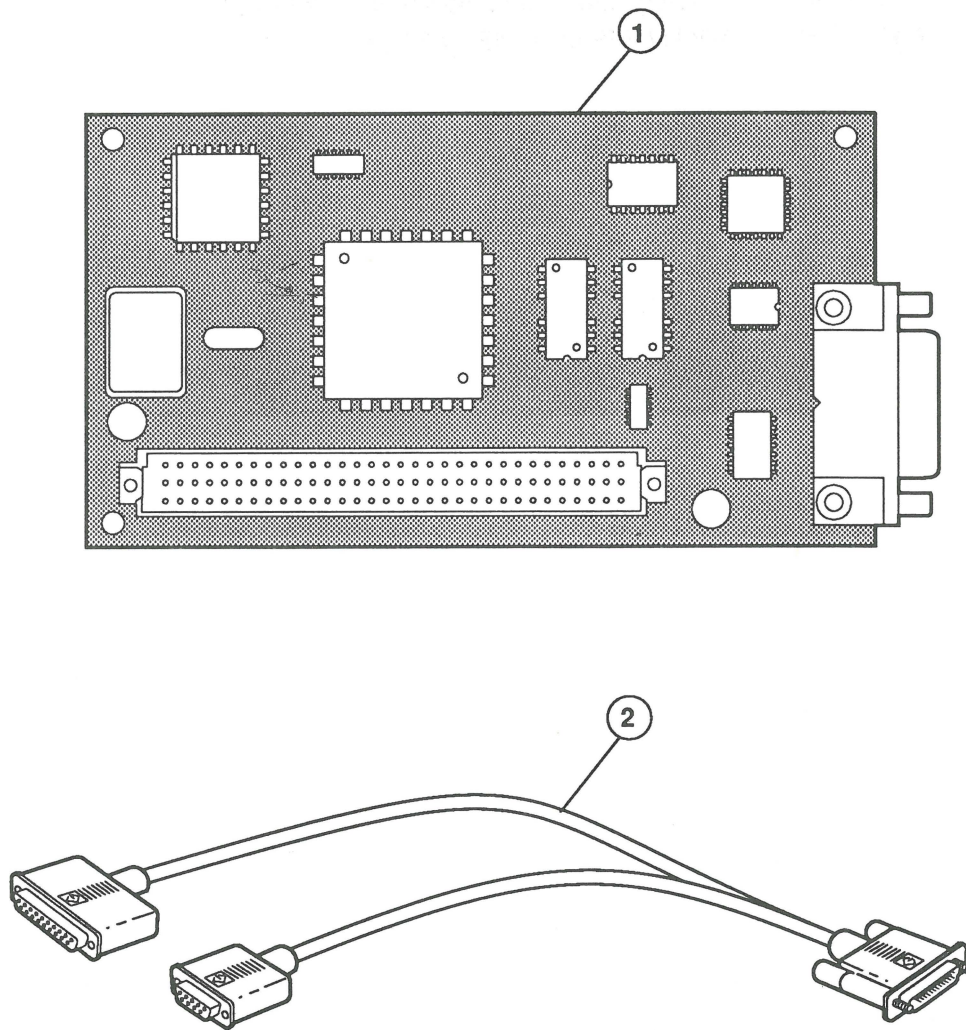

Figure 10
IPL.17	Apple IIe Card (Figure 10)
□ **APPLE IIe CARD (Figure 10)**